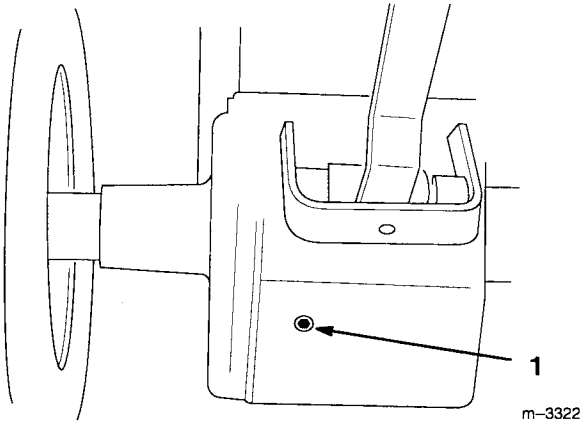

Figure 43
3. Place a pan below the transaxle drain. Open the drain by removing the plug (Fig. 43).